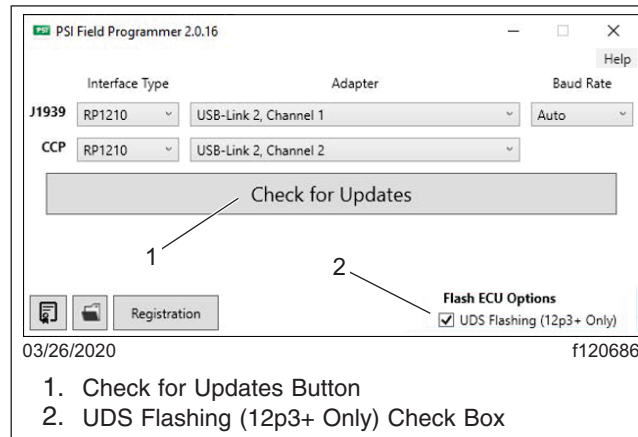

Fig. 18, UDS Flashing (12p3+ Only) Check Box Screen
1. In order to start the UDS Flash process, the 'UDS Flashing (12p3+ Only)' check box must be selected. See **Fig. 18**.